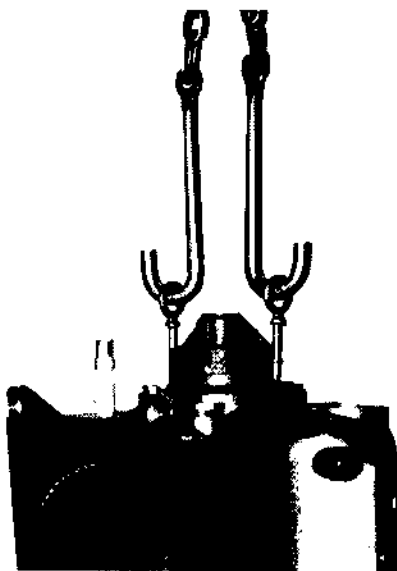

FIG. 10 — COMPRESSOR IN VERTICAL POSITION
3. The compressor must now be placed in a vertical position. The compressor can be lifted by a crane and eye bolts as shown in Fig. 10 and rested on blocks of wood on the motor end. Do not rest on stator.